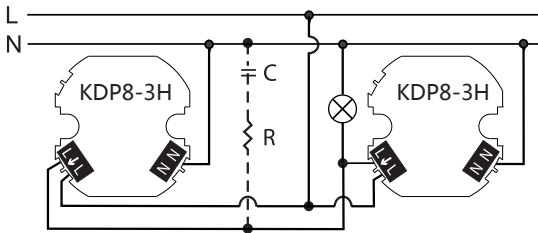

FIG.10
Two sensor wall switches paralleled to control the connected load (See FIG.10).
- Unscrew the terminal and refer to the wiring diagram (See FIG.6 - FIG.10) to insert the power cables into the corresponding terminal pin jack. Please be noted to strip off 6-8MM of cable sheathing by tool (See FIG.12).
- Fix JB-40 on the wall with two 4 x 25.4MM wood screws (See FIG.15-A). Refer to FIG.10 for position of screw holes.